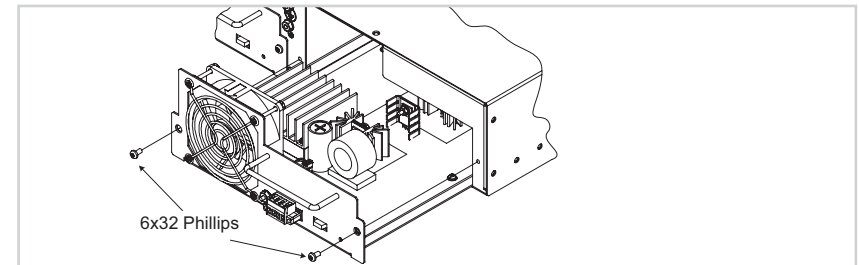

Figure 11: Power Supply Removal and Installation
4. Remove and keep the two (2) 6-32 philips head screws securing the power supply to the chassis.
5. Carefully pull the power supply from the chassis. See Figure 11.
2. Slide the power supply into the chassis slot, as shown in Figure 11 above.